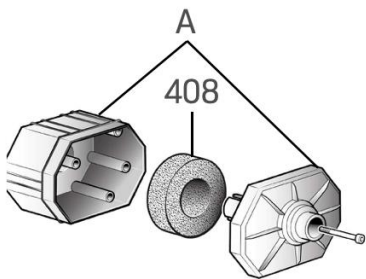

Fig. 10
- 1. Remove the filter (A) from the compressor (Fig. 10).